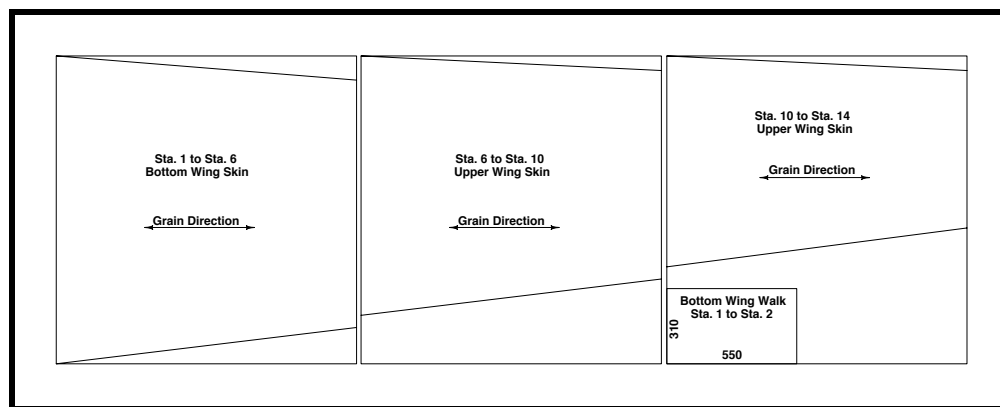

Figure 47
- ❑ Use six 50"x50" sheets of 2mm birch plywood as shown in Figure 47. Two of each are required. Cut the bottom wing walk and then cut the other skins to fit the aircraft.